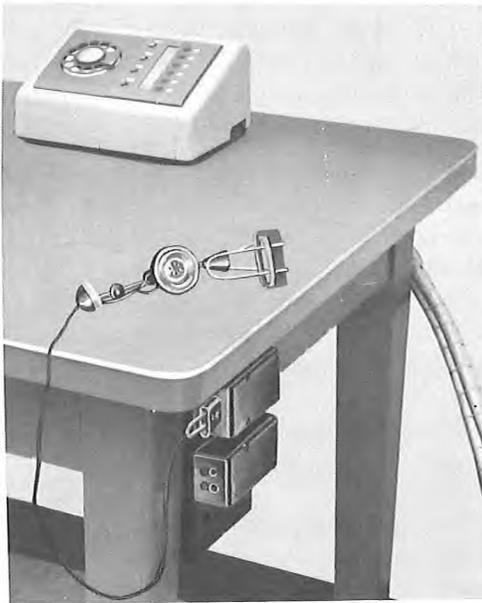

Fig. 39 – Key Units, Surface Mounted
13.01 Key units may be assembled to form a single operating unit for mounting in apparatus cases, as shown in Fig. 39. Only one dial unit and one originating key unit are required for each assembly. Additional supplementary key units may be added as required. When more than one unit is required, they must be coupled together and have linkage connected before cables are terminated and before they are placed in the apparatus cases.